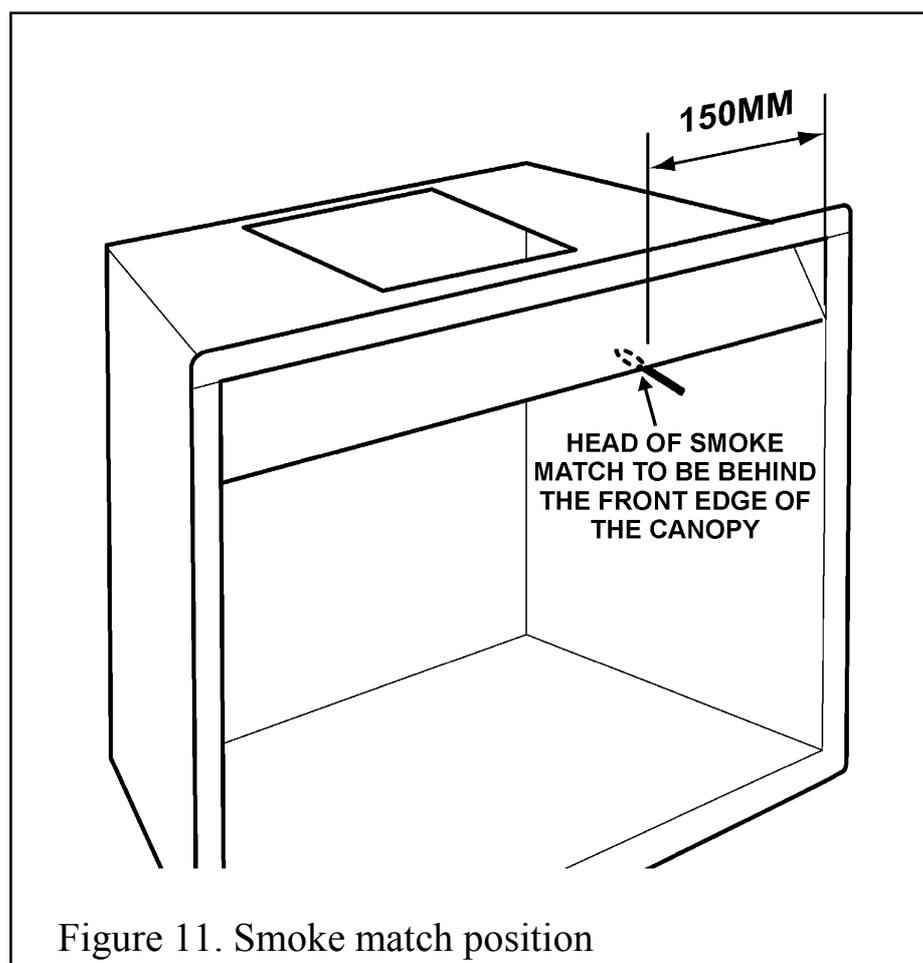

Figure 11. Smoke match position
4. The smoke match should be placed horizontally into the chamber box at the right hand side. (See figure 11).